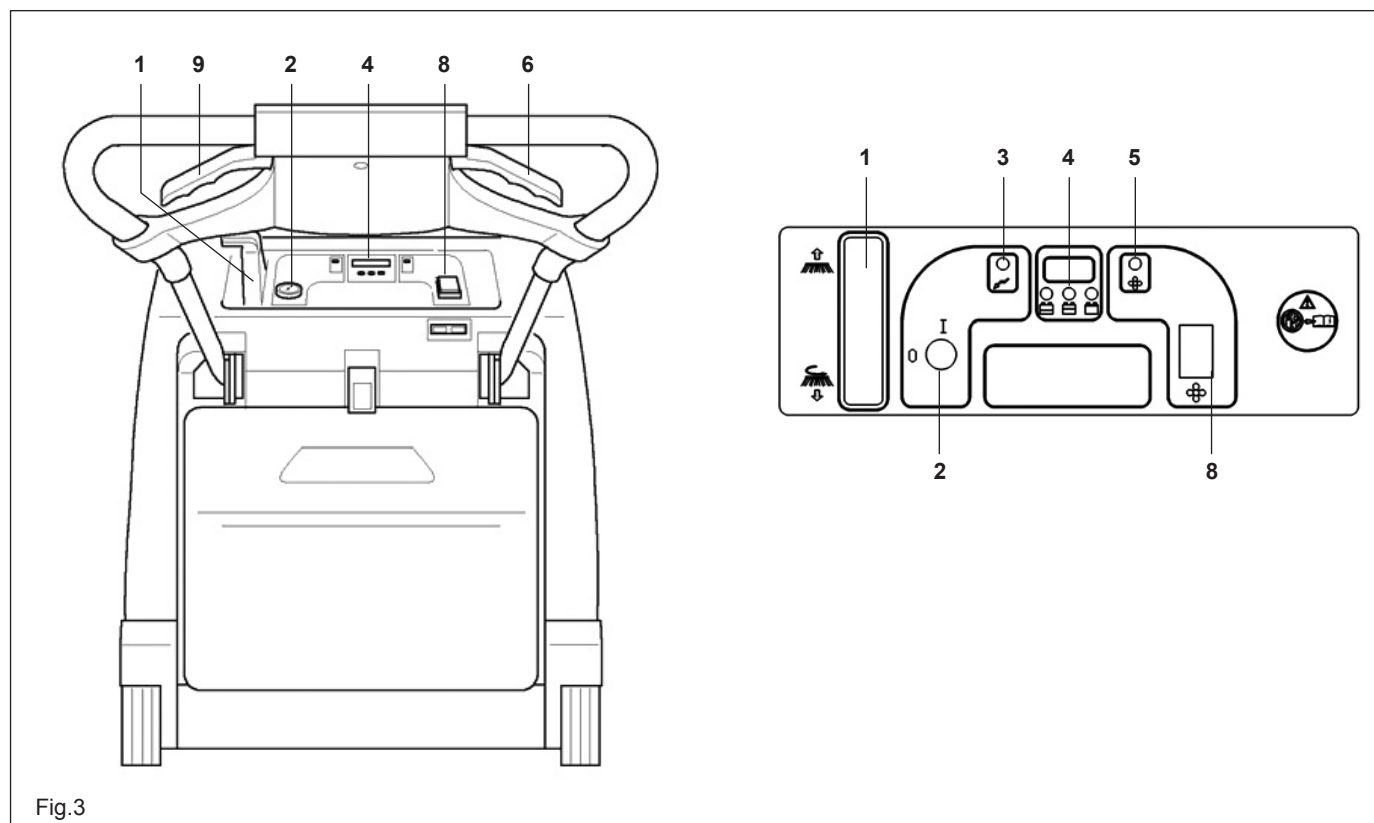

Fig.3
- Switch the brush lift lever (1 Fig.3), to OFF.
- Make sure the side brush pos.1 Fig.3 is 0.
- Turn the switch pos.2 Fig.3 to position I. Wait 10 seconds before operating machine.
- Before operating machine, check the indicator pos.4 Fig.3, to assess whether the battery is fully charged. If it is not, proceed to recharge it.
- Pull the traction lever pos.6 Fig.3, to start cleaning.
If necessary, operate lever pos.1 Fig.3, by turning it to I position, to start the side brush. If you have been using the side brush, at the end of your work remember to turn it to 0 position. Switch off the machine and remove the key from the control panel.
The length of time the battery charge lasts will depend on its routine maintenance and on its discharge level. Do not allow the battery charge to drop below the limit signalled by the indicator lights pos.4 Fig.3. Once the max. discharge level has been reached, the machine stops and must be recharged in order to restart working.